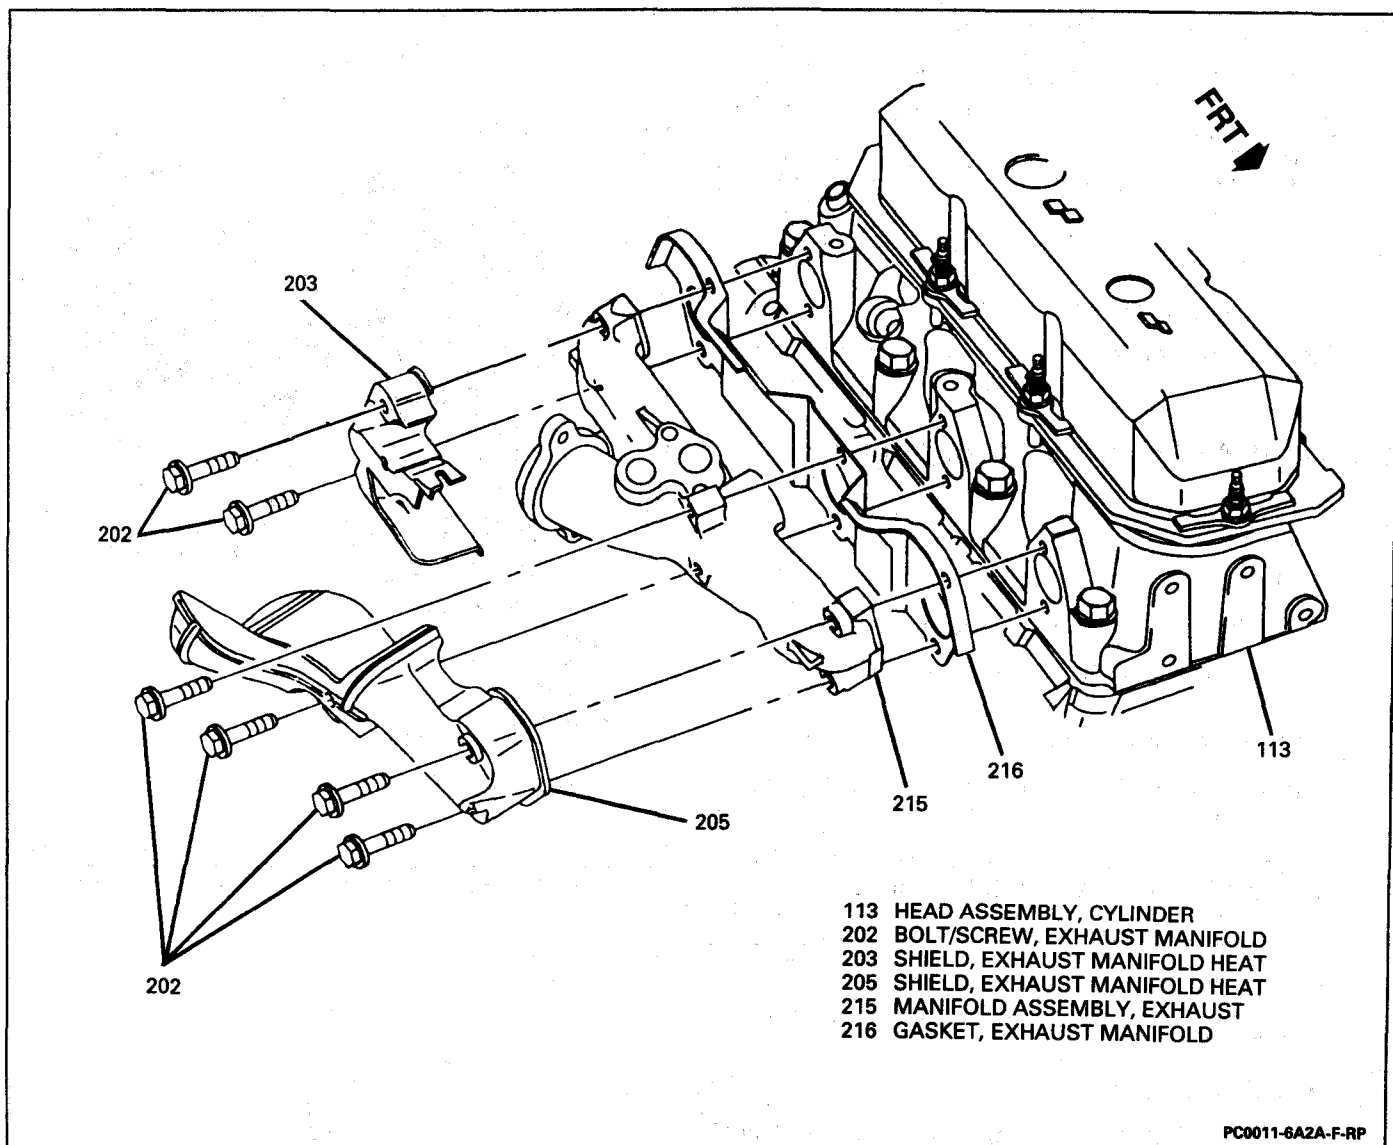

Figure 12 - Right Exhaust Manifold Assembly
5. With the hydraulic modulator upside down, and the gears facing you, rotate each hydraulic modulator gear counterclockwise until movement stops. This procedure will position the pistons very close to the top of the modulator bore simplifying the brake bleeding procedure (refer to Figure 12).